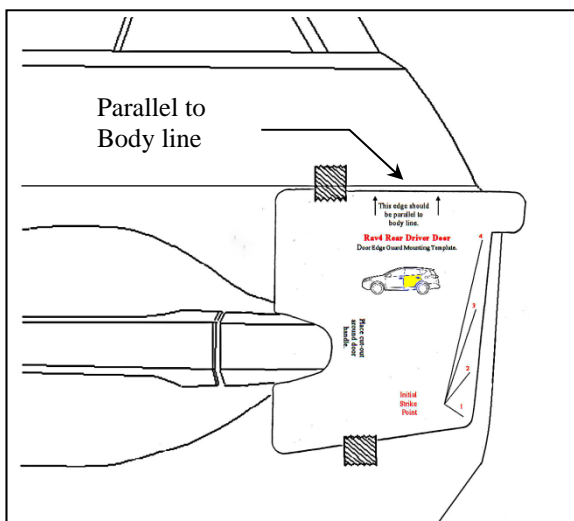

Fig. 1-3
- (2) Select the rear door template and fit the notch around the door handle. Adjust it as needed to ensure it is parallel to the body line directly above the template. If needed, tape it into place using painter’s masking tape (Fig 1-3).